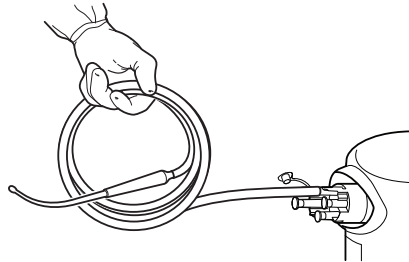
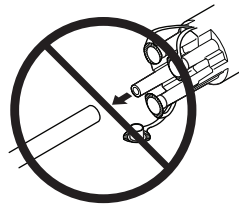

Figure 6 To Gather Suction Tubing
Figure 7 Keep Tubing Attached During Disposal
1. With suction active, gather the suction tubing toward the manifold port to purge the tubing of fluid waste (Figure 6). DO NOT remove any attached suction tubing from the manifold (Figure 7).